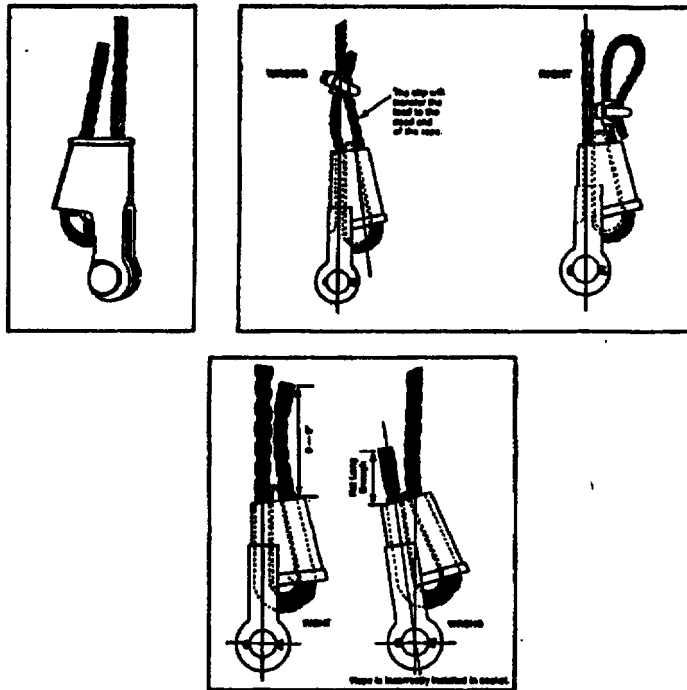

Fig. 2-17 The wedge socket
- (1) Review work (if assembled correctly, the end of the rope will be visible in the inspection holes. No more than four threads should be visible on the sleeve after tightening.)
- (2) Apply proof load to the assembly (the plug will seat further in the sleeve and the rope will not be visible in the inspection hole).
- (3) Paint end fitting and a section of the wire with white paint so it will be readily apparent if the fitting slips.
- e Wedge Sockets. Wedge sockets are the simplest fittings because of their ease and speed of applying and detaching. Wedge fittings are authorized only for overhead lifting aboard construction tenders. A wedge socket can withstand only approximately 75 percent of the break strength of the rope. The installation of the wedge socket is fairly obvious, but a few procedures must be observed (See **Figure 2-17**):
- (1) Make certain that the live end of the rope lines up with the hook.
- (2) Extend the dead end of the rope 6 to 9 times the rope diameter.
- (3) Place a wire rope clip around the dead end by clamping a short, extra piece to the tail. These precautions are necessary to ensure full performance of the fitting. Periodically checking the length of the tail to determine if the rope is being pulled through. The wire rope clip keeps the rope from flattening, which would permit easier pull-out and failure.